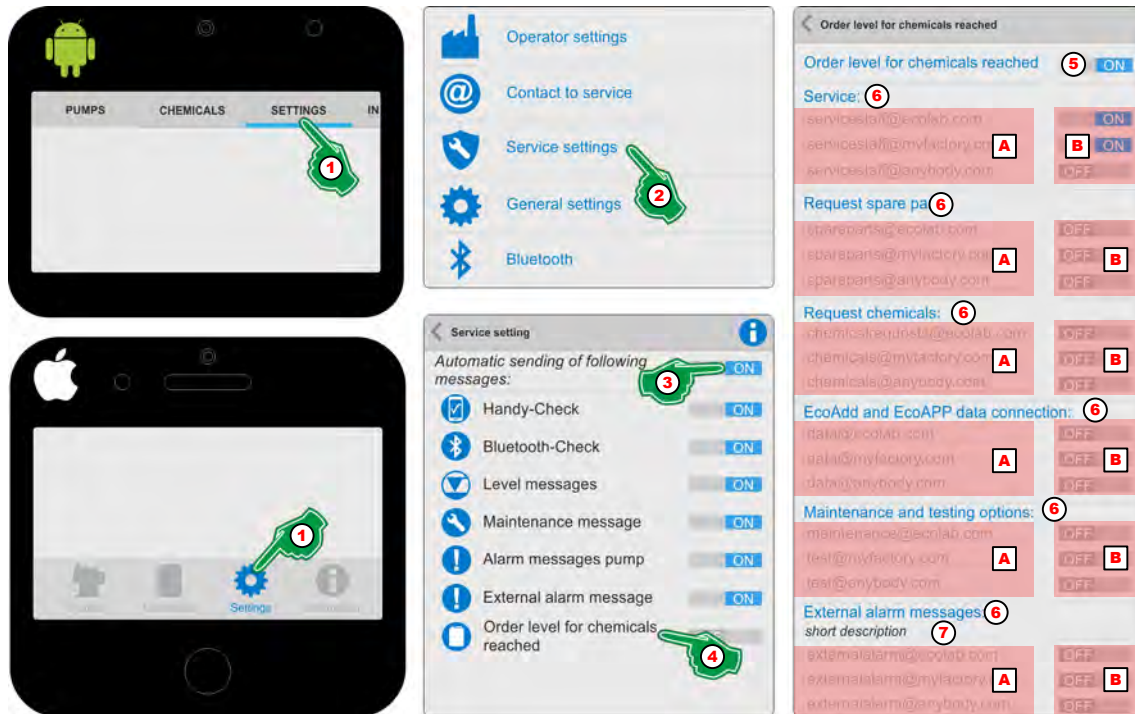

Fig. 12: 'Order level for chemicals reached'
1. Select [Settings] (Fig. 12, Pos. 1).
2. Select [Service Settings] (Fig. 12, Pos. 2).
3. Turn on 'Automatic sending of following messages' (Fig. 12, Pos. 3)
4. The symbol or designation 'Order level for chemicals reached' (Fig. 12, Pos. 4).
5. Turn on 'Order level for chemicals reached' (Fig. 12, Pos. 5)
6. Turn on desired service contacts (Fig. 12, Pos. A) (Fig. 12, Pos. B) .
7. To display errors when using an external controller (Fig. 12, , Pos. 7) introduce a brief description (Fig. 12, Pos. 8) for identification.